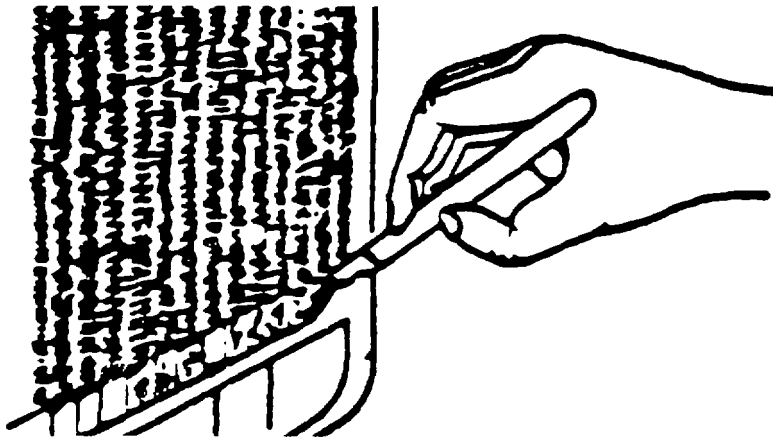

Figure 6-3. Radiator Hole Epoxy Fix.
- (e) Scrape or rough up the damaged surface with a wire brush or knife as shown (figure 6-3).